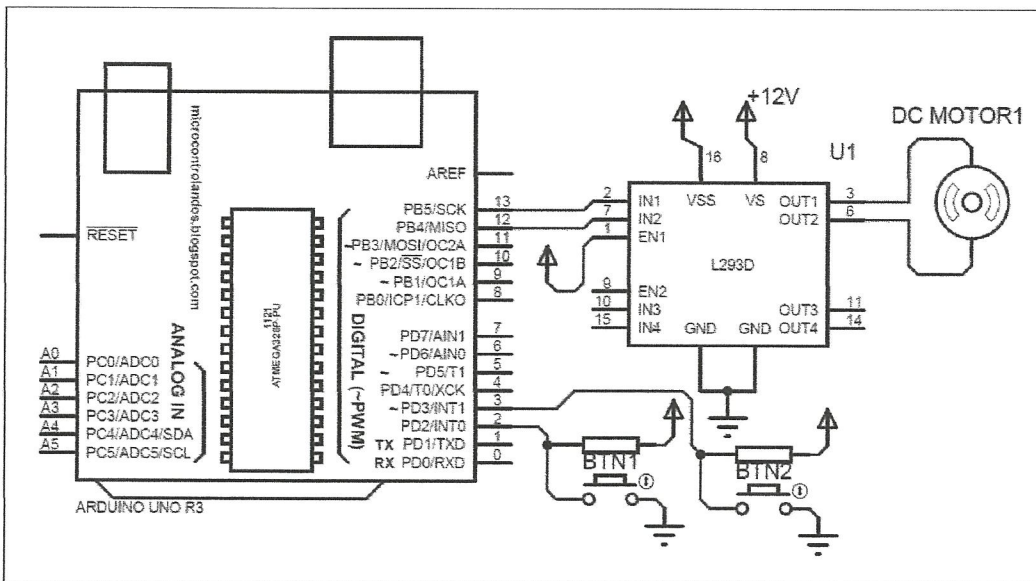

FIGURE Q4(d)
- (d) Based on the **Figure Q4(d)**, what is the function of L239D?
- (e) Based on the **Figure Q4(d)**, write a full programming code which is Button 1 (BTN1) will rotate the motor clockwise and Button 2 (BTN2) anticlockwise.